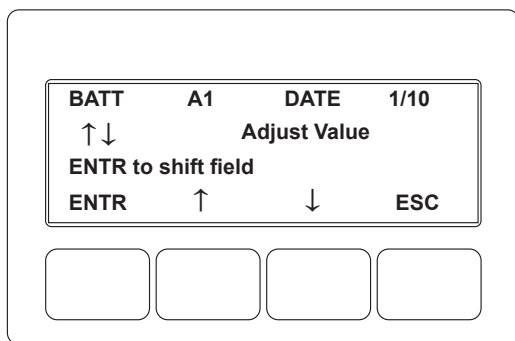

Fig. 2-33, Enter Battery Date Code
20. Enter the battery DATE code and the MHOs (conductance) readings. Battery date and MHOs entries can be made on the LCD (see **Figs. 2-33 and 2-34**).